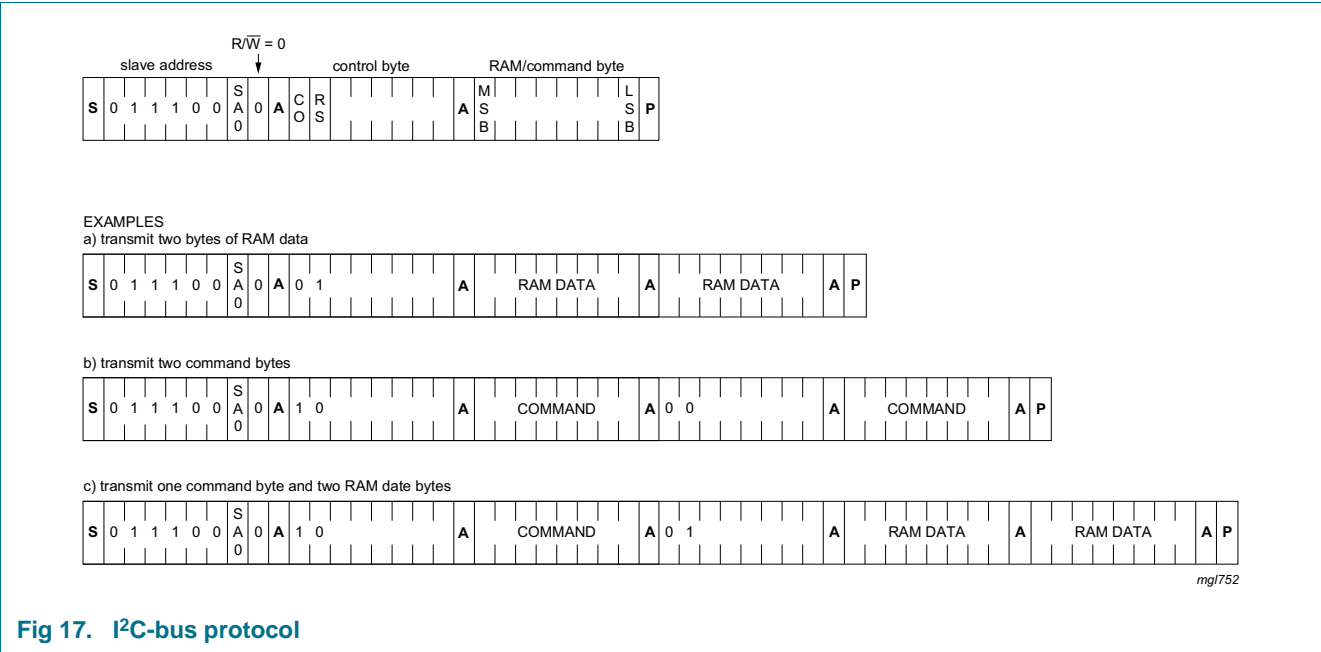

Fig 17. I2C-bus protocol
The I2C-bus protocol is shown in Figure 17. The sequence is initiated with a START condition (S) from the I2C-bus master which is followed by one of the available PCA85133 slave addresses. All PCA85133 with the same SA0 level acknowledge in parallel to the slave address. All PCA85133 with the alternative SA0 level ignore the whole I2C-bus transfer.